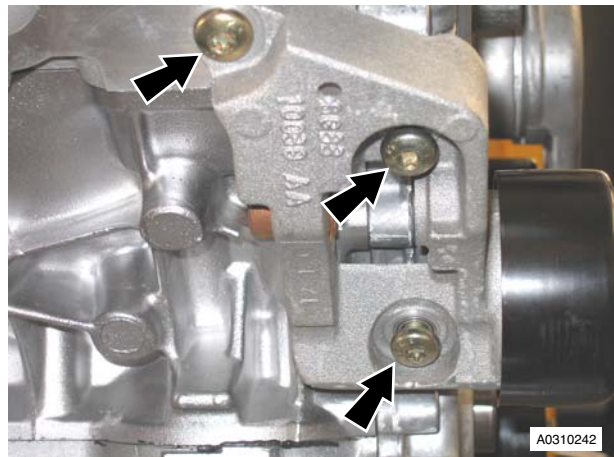

Figure 8
36. Remove the three Torx bolts that attach the alternator mounting bracket to cylinder block. Remove the bracket (refer to Figure 8).